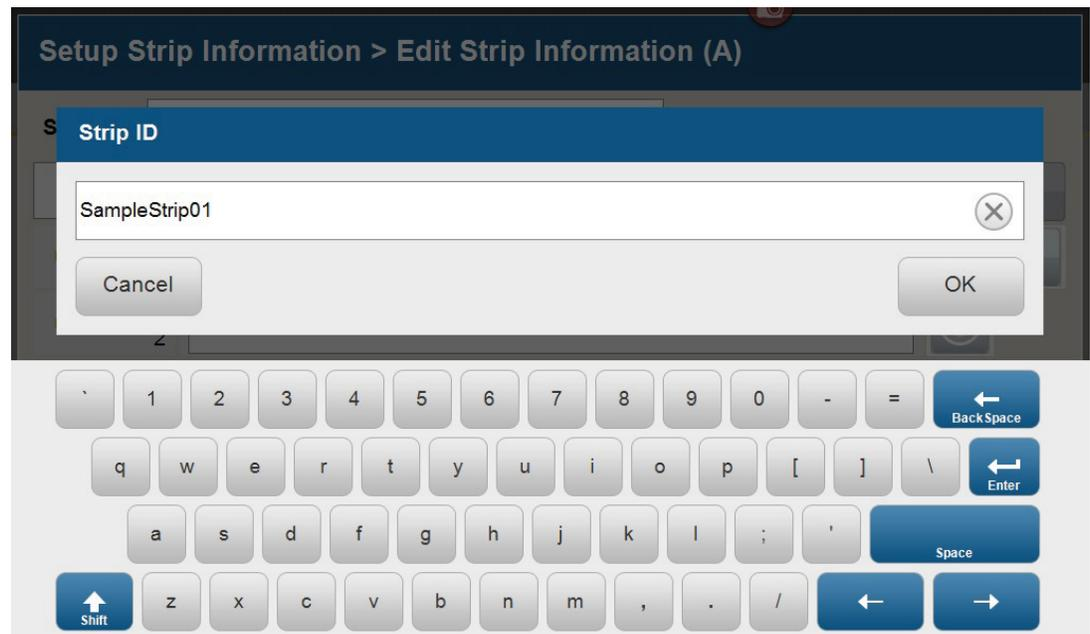

Figure 12. 'Set Strip ID' window.
3. The default Strip ID is date and time. It can be modified by selecting the **Strip ID** field. This opens the 'Set Strip ID' window and a keypad will become active on the touch screen (Figure 12). Alternatively, the Strip ID can be entered using a traditional keyboard if one is connected to the Spectrum Compact CE System. Enter the appropriate Strip ID, and then select **OK** to exit and return to the 'Edit Strip Information' screen.